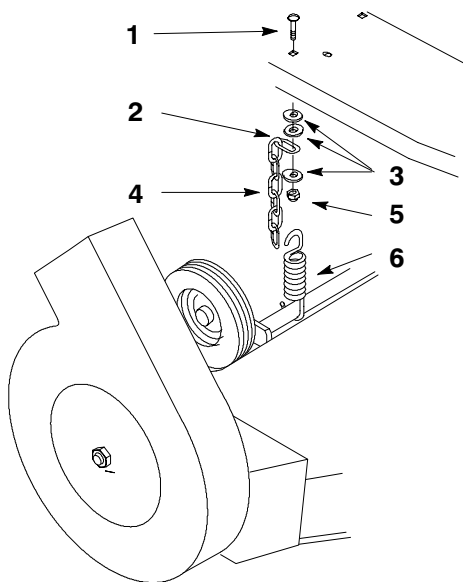

Figure 22
1. Place a 5/16 x 1 1/4" (32 mm) carriage bolt through the squared hole (added in "Tractor Preparation") in the right hand footrest (Fig. 22).
- Place two 5/16" (19 mm) washers and a link on one end of the chain onto the carriage bolt. Position the end link on the bolt so that the remaining links hang toward the rear. Secure with a third washer and a 5/16" locknut (Fig. 22).
- Hook the spring around the wheel shaft at the rear of mower and into one of the chain links (Fig. 22). Refer to Operation Section, "Adjusting Height-of-Cut" for recommended chain link setting.